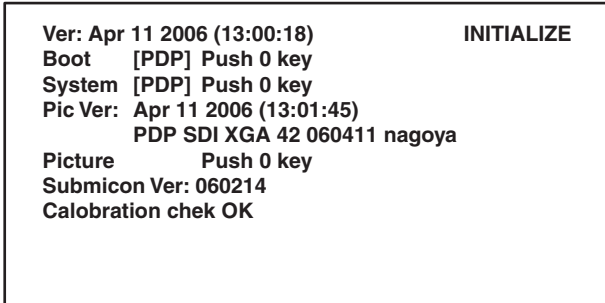

Fig. 4
- "INITIALIZE" (red) appears on the screen as shown in Fig. 4.